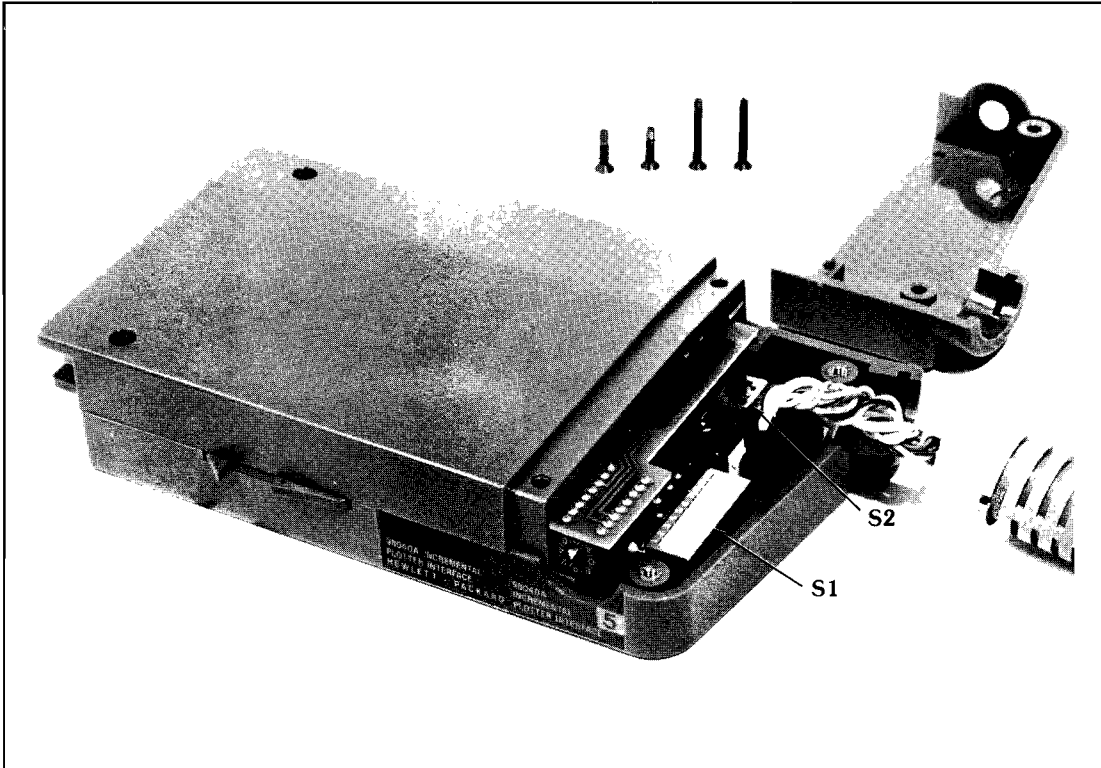

Figure 2-4:
2. Remove this half of the rear housing from the interface. Figure 2-4 shows the location of the switches.
The voltage level of the output data pulse is set to a +5v level at the factory. If your plotter requires a pulse voltage level of +12v, set the voltage level switch S2 (shown in Figure 2-4) to the +12v position.